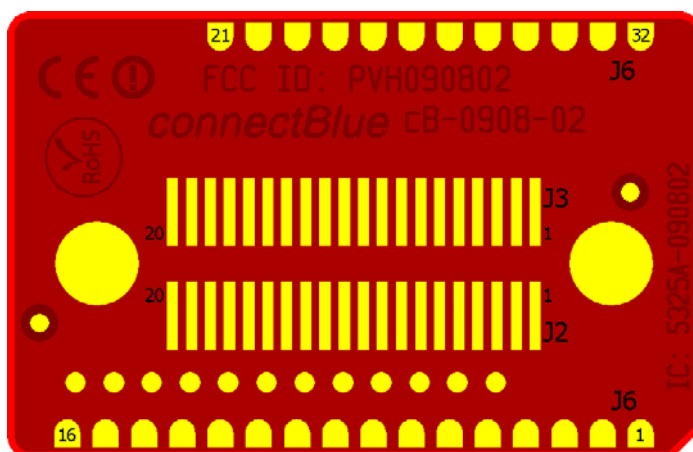

Figure 5: Secondary side connectors
- Via the PCB solder lands on the edge of the PCB, J6 (see Figure 5: Secondary side connectors). For more information see Section J6 Solder Lands Description.
- Via the 2 x 20-pin 1mm pitch board-to-board (one piece part) connectors J2 and J3. The J2 and J3 connectors exist on the OWSPA module only as compression pads (see Figure 5: Secondary side connectors). These pads mates with the carrier board one-piece part connector. For more information see Section J2 Connector Description and J3 Connector Description.